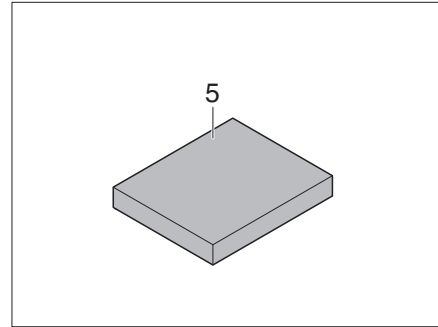

Fig. 197 Additional cushion
- Place the additional cushion (Fig. 197,5) in the middle of the table.